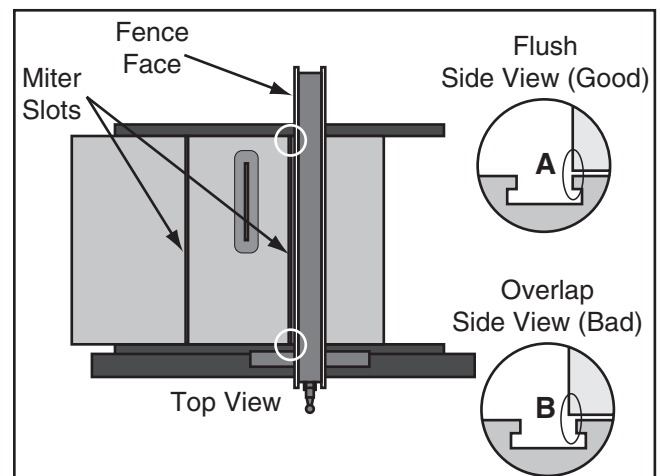

Figure 116. Aligning fence to miter slot.
5. Slide the fence up against the right-hand edge of the miter slot, as shown in **Figure 116**, and lock it in place.